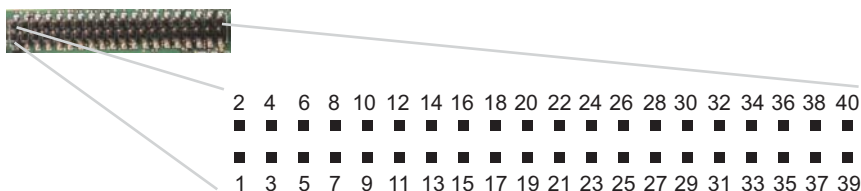

Figure 42: Top-view of 40-Pin Connector on the OEMV-3
- e. See also *Figure 42 on Page 122* and its table.